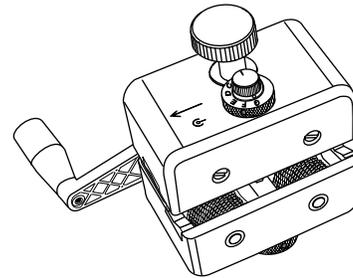

Figure 25
6.15 The Corning Cable Systems Universal Access Tool III is designed to access the fibers of single-tube cables in a mid-span location where slack is present (Figure 25).